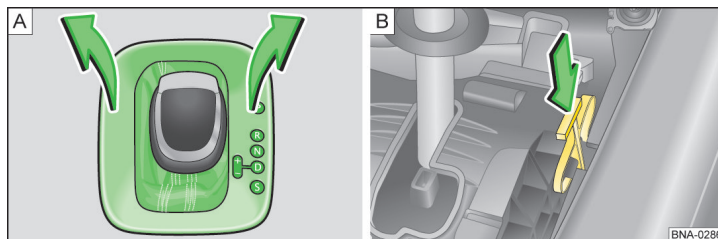

Fig. 99 **Remove / release the selector lever**
- Carefully pull up the front left and right cover » fig. 99 - [A].
- Press on the yellow plastic part in the direction of arrow » fig. 99, [B] simultaneously press the lock button in the selector lever handle and put the lever in position N.